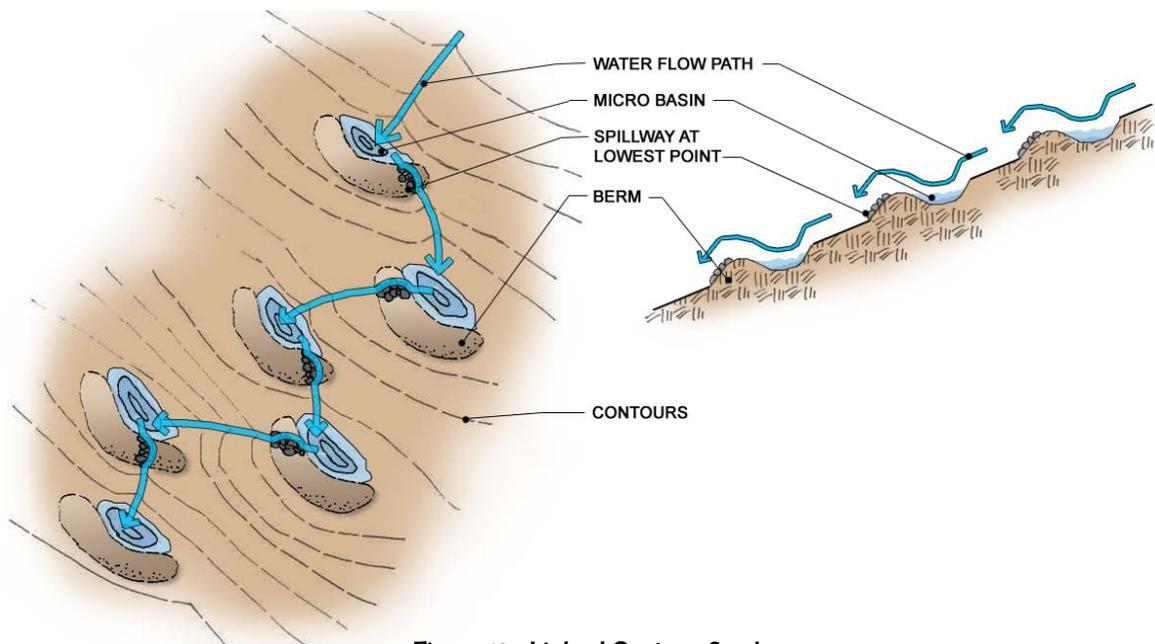

Figure 18. Linked Contour Swales
- It is generally preferable to construct multiple swales at several points in the watershed versus a single large swale. On-contour swales can be built in linked series with spillways that allow overflow from one swale to flow into swales at lower elevation levels (see Figure 18). Spillways should be positioned so that the water is forced to move along the swale for as long as possible before flowing to subsequent swales. The top of the berm should be level except for spillway areas. The spillway should be lined with stone or other non-erosive material. A rock apron or splash pad should be installed on the downstream side to absorb the erosive impact of water exiting the spillway.